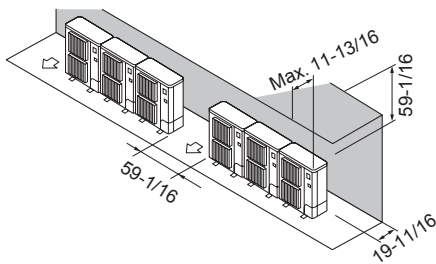

Fig. 3-12
② Obstacles at rear and above only (Fig. 3-12)